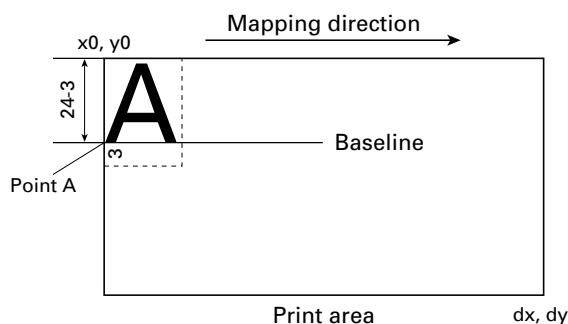

Figure 4-1 Mapping Position for Character Data
- (1) The print area is set by ESC W. When the printer has finished all of the print and paper feed actions specified before receiving an ESC W, the ESC W sets the right end (as viewed facing the printer) as the start point (x0, y0) of the print area. The print area is a rectangle defined by two edges extending from the start point (x0, y0): one edge running in the "x" (Horizontal) direction by "dx" pitch (inclusive of the start point), and the other running in the "y" (Vertical) direction by "dy" pitch. (If no ESC W is defined, the default values are used to define the print area.)
- (2) With a print area defined by ESC W and a print direction specified by ESC T, when the printer receives print data, the print data is mapped in the print area where point A (see the Figure 4-1 "Mapping Position for Character Data") is used as the initial value of the start point. If the print data consists of characters, this start point serves as the baseline.